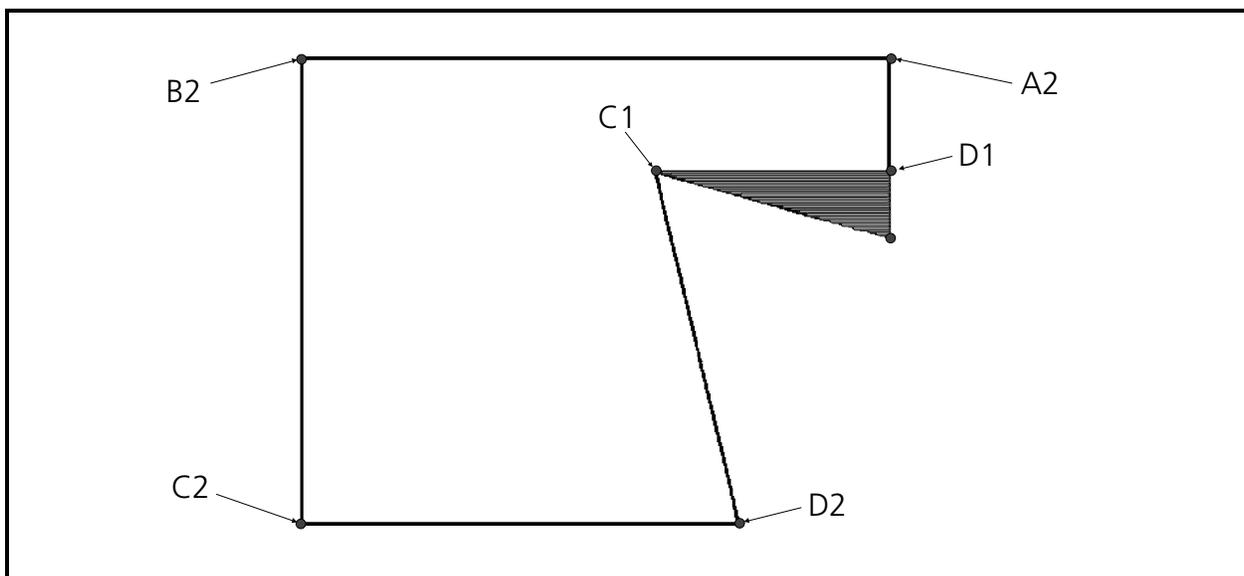

Figure 3-57
Now, as shown in Figure 3-57, the monitor should display the triangular section you just digitized in a fill pattern that enters at point A1 (see rule #1) and exits at point D1 (see rule #2). If you want the fill stitching to exit at the left of the triangle, you may interchange points C1 and D1 when you digitize (see rule #2).
2. Enter a Mk1 at A2 in the illustration in Figure 3-57 and another Mk1 at B2 to define the first line of the fill.
4. Now enter a Mk2 at point B2 in the illustration in Figure 3-57 to identify the start of the first side of the second fill. Review rule #4 if you have a question on this step.